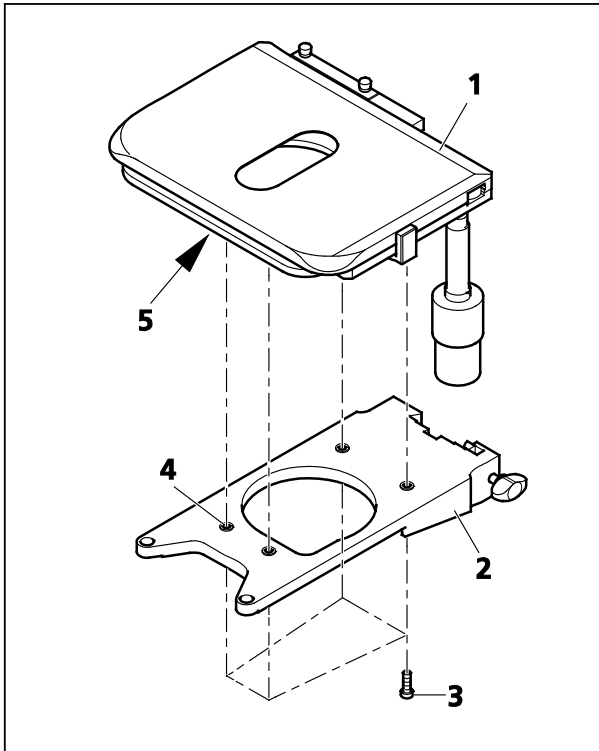

Figure 3-14 Installing the mechanical stage on the stage carrier
- Put the stage (Figure 3-14/1) on the stage carrier (Figure 3-14/2), aligning the four threaded boreholes in the lower table side (Figure 3-14/5) above the through holes (Figure 3-14/4) of the stage carrier.
- Insert the four fastening screws (Figure 3-14/3) from below through the stage carrier, and screw them into the stage bottom side.